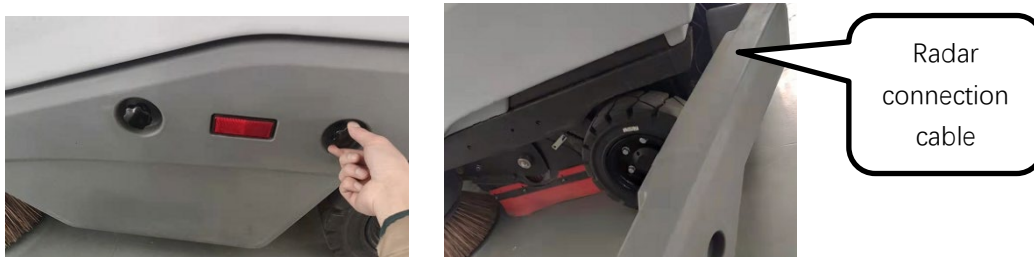

Fig. 4
3. Remove the two handles of the roller brush cover on the left side of the sweeper (on the left in front of the operator when he sits in the sweeper), and place the roller brush cover at the back of the sweeper (pay attention to the connection cable of the rear radar) (Fig. 4);